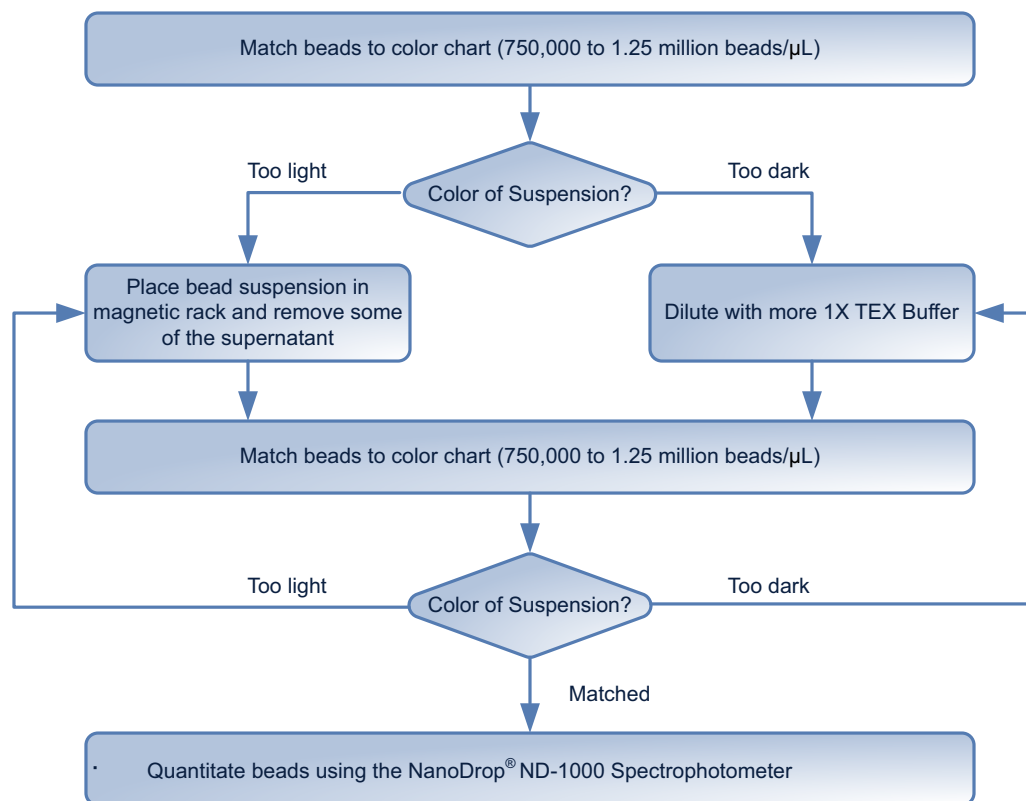

Figure 20 The SOLiD™ Bead Concentration Chart workflow.
5. Adjust the volume of beads so that the color of the bead solution matches a color in the optimal range (750,000 beads/ μL to 1.25 million beads/ μL). See Figure 20 on page 36 for the workflow.